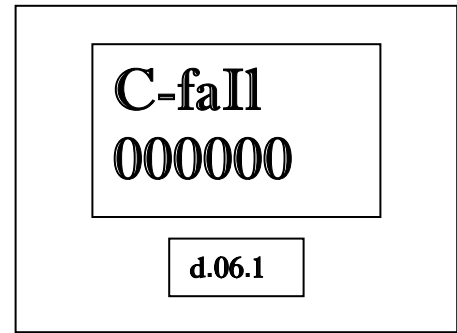

Figure 43
6.1 - Cfails. The display in Figure 43 appears. The PPV display shows the dispenser is in Diagnostics Level 6.1.